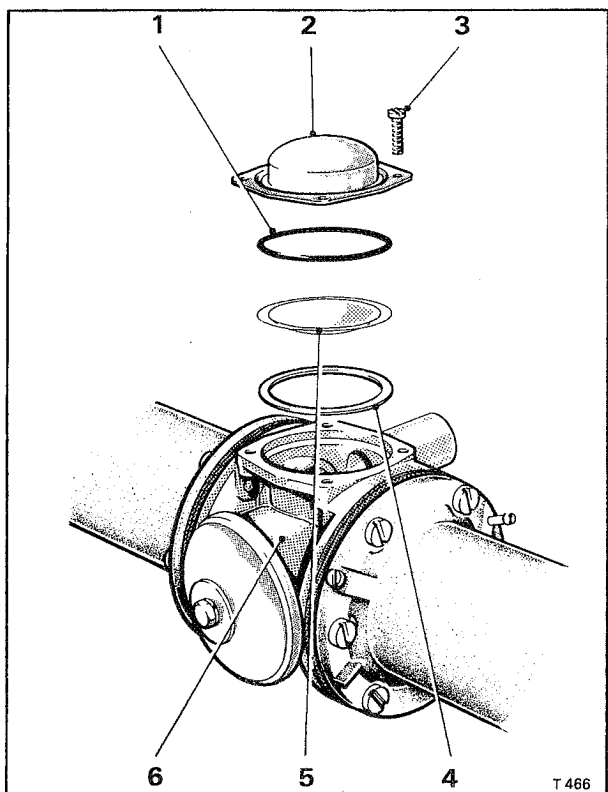

Fig. K26 Delivery flow smoothing device
25. Place the transparent sealing washer in the bottom of the delivery flow smoothing device recess in the pump body (see Fig. K26). Assemble the remainder of the device by fitting the plastic diaphragm (domed side in), the rubber 'O' ring and finally the cover which should be retained in position by four 4BA screws.